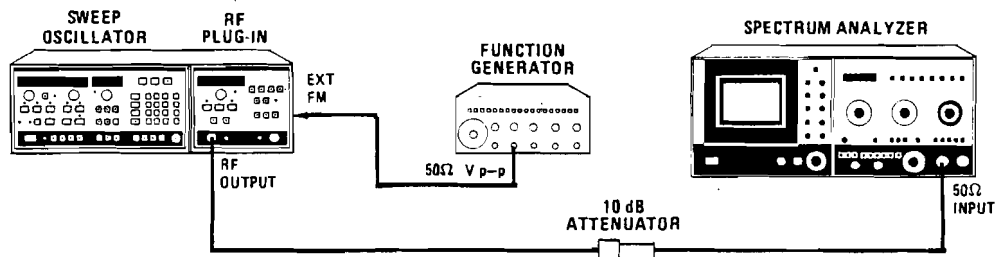

Figure 4-15. 100 Hz External Frequency Modulation Test Setup
1. Ensure that modulation sensitivity is set to -20 MHz/volt and modulation coupling to DC. Refer to section III of the plug-in manual for information on FM switch position. Connect equipment as shown in Figure 4-15.